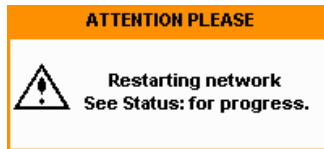

Figure 1-3 LAN Network Restart Pop-up
A pop-up appears for 5 seconds (see Figure 1-3). Monitor the Status at the bottom of the display to see when the server has assigned an address.
- A pop-up appears for 5 seconds (see Figure 1-3). Monitor the Status at the bottom of the Remote Interface display to see when the server has assigned an address.